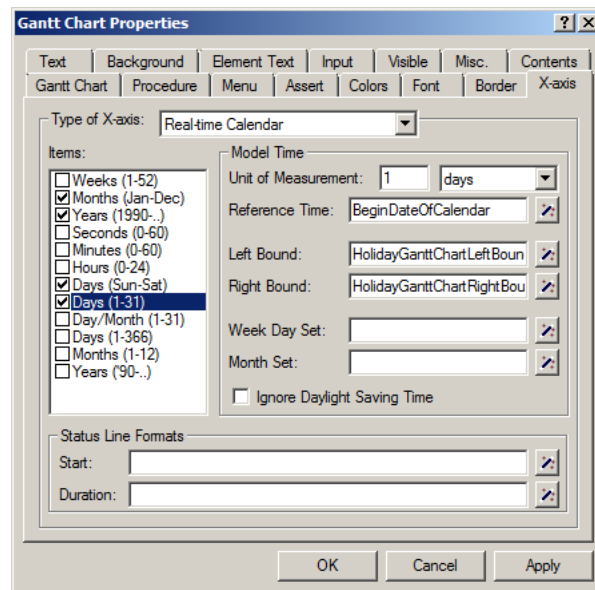

Figure 12.11: The **X-axis** tab of the **Gantt Chart Properties** dialog box
- ▶ check 'Days (Sun-Sat)', 'Days (1-31)', 'Months' and 'Years' as illustrated in Figure 12.11,